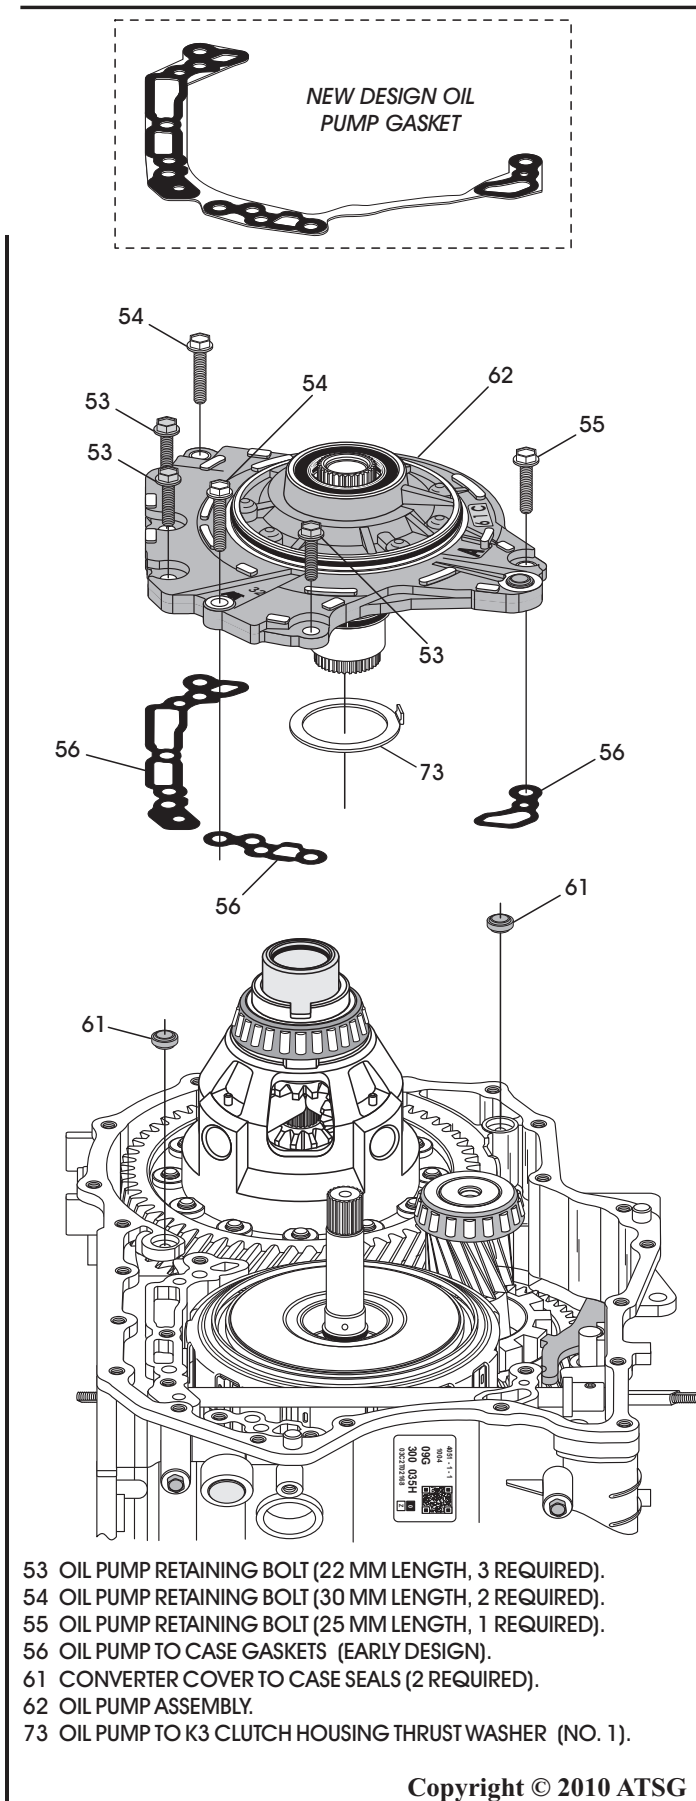

Figure 67
35. Remove the six oil pump retaining bolts, as shown in Figure 67.
36. Remove the oil pump assembly, as shown in Figure 67, and set aside for component rebuild.
Note: Number 1 thrust washer may be stuck to back of oil pump (See Figure 67).
37. Remove and discard the three oil pump to case gaskets, as shown in Figure 67.
Note: New design pump gasket with all three gaskets mounted on steel core is included in Trans-Tec® gasket set (See Figure 67).
38. Remove and discard the two case to converter cover seals, as shown in Figure 67.